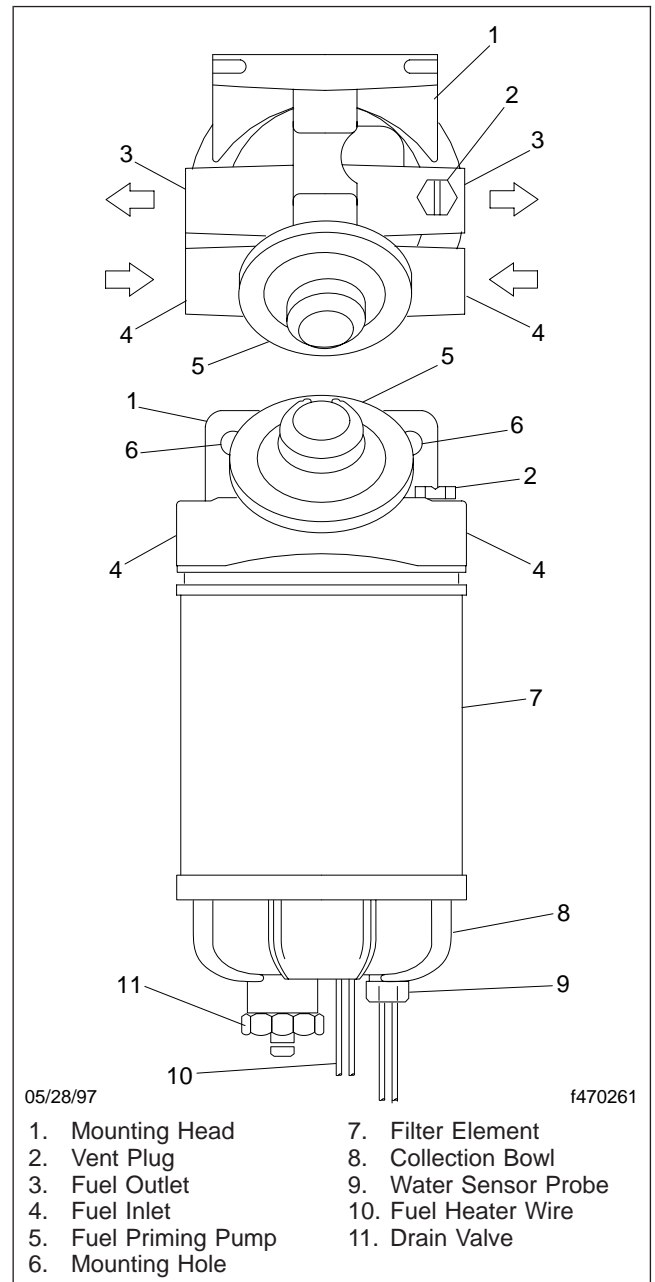

Fig. 3, Racor 460R Fuel Heater/Water Separator
1. Disconnect the water sensor probe connector, if equipped. See Fig. 3.